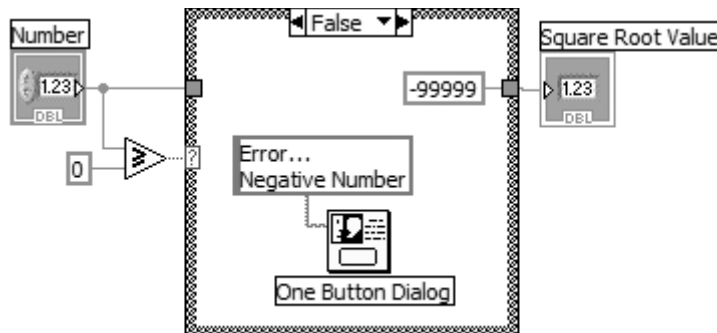

Figure 6.39
3. Open the block diagram window. You will construct the code shown in Figures 6.39 and 6.40.